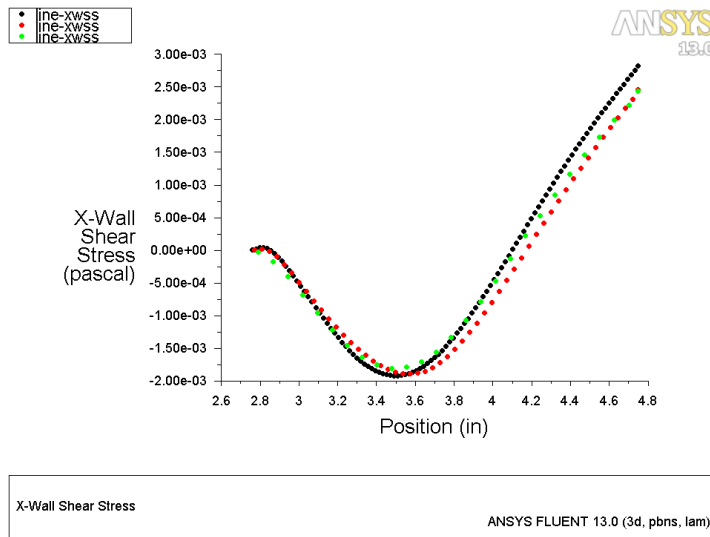

Figure 27: Comparison of X-Wall Shear Stress Profiles After Two Mesh Adaptions
- Figure 27 shows the predicted wall shear stress profiles for the three mesh refinement levels. The wall shear stress exhibits mesh independence upon successive mesh refinement.